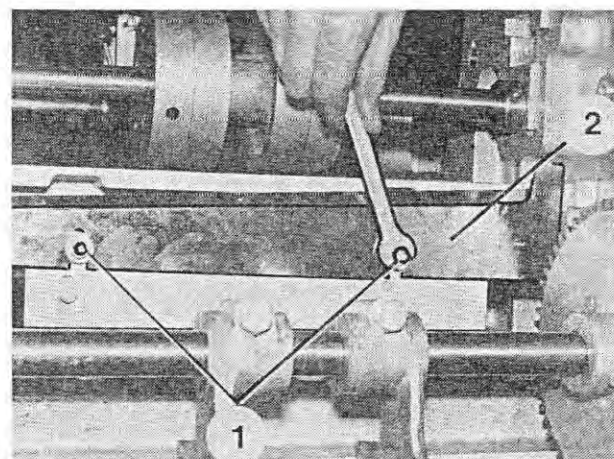

Fig. 266
5. To completely replace the cutter knives, loosen the hex nuts (Figure 266/1) and pull out the lower cutter knife (Figure 266/2).